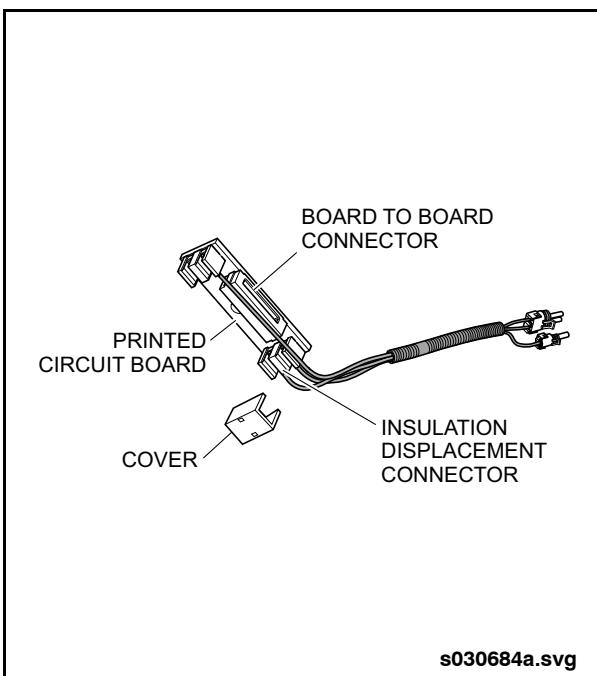

Fig. 9-22: Finger Board Assembly
2. Locate the finger board which is typically installed at the beginning of a bank of lighting boards. See "Fig. 9-22: Finger Board Assembly" on page 42.